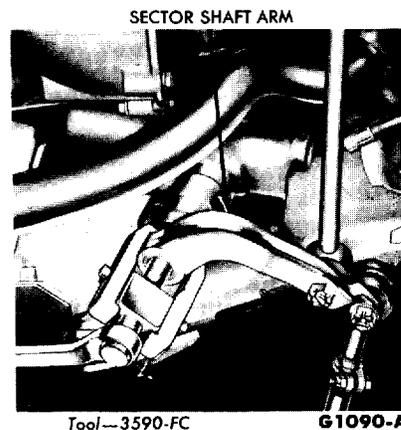

FIG. 8—Sector Shaft Arm Removal
1. Disconnect the sector shaft (Pitman) arm from the steering arm to idler arm rod (Fig. 8).